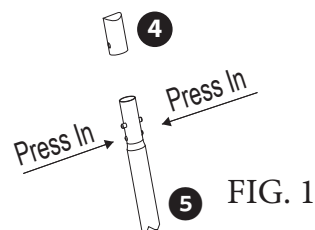

FIG. 1
6. Locate the four metal pipe (Horizontal Beams) for the left and right support frame sections of the pool. Also locate the four U-Shape Pipe frames. Each end of the U-Shape pipe will have a Cap to be installed. Locate the 8 Pipe Caps and install, push the buttons in as you insert the Cap onto the pipe end. Look through the holes in the Cap as you install it and slightly rotate the Cap until the buttons align with the holes and pop up, locking the Cap onto the pipes end as shown in FIG. 1. Now place two of the U-Shape pipes on each side of pool near the rectangular flaps.